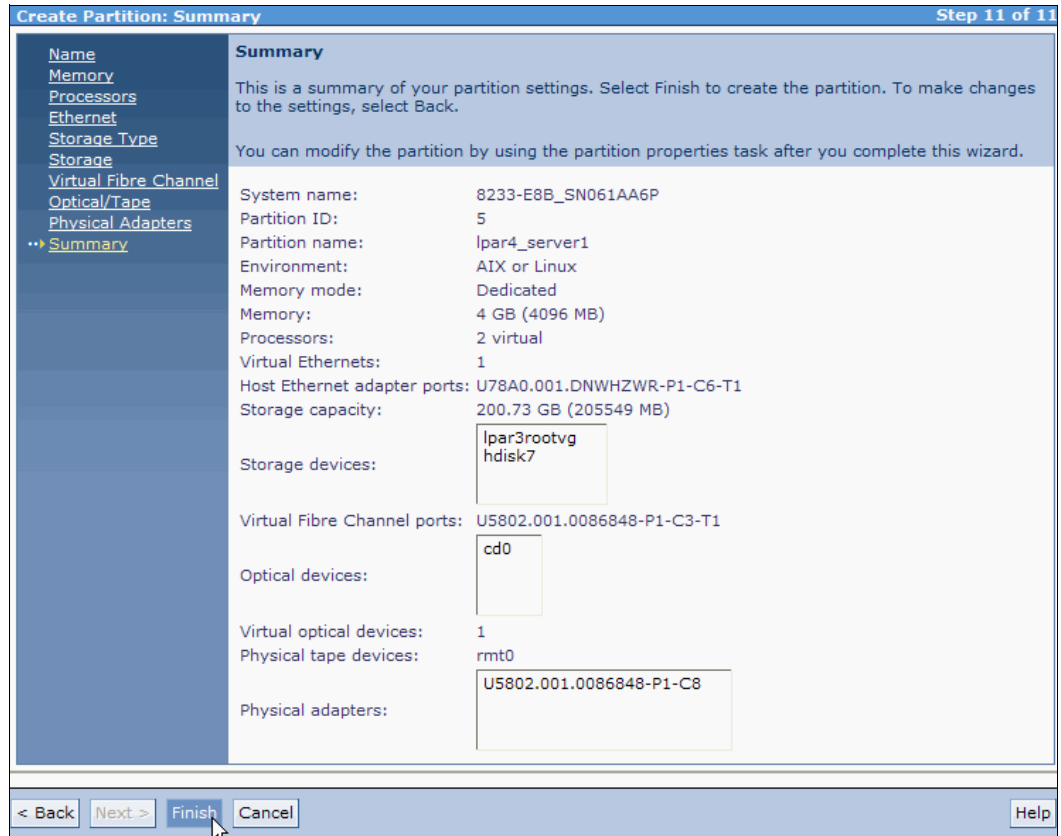

Figure 4-47 Create Partition: Summary
12. A summary of the partition to be created opens, as shown in Figure 4-47. Click **Finish** to create the LPAR.